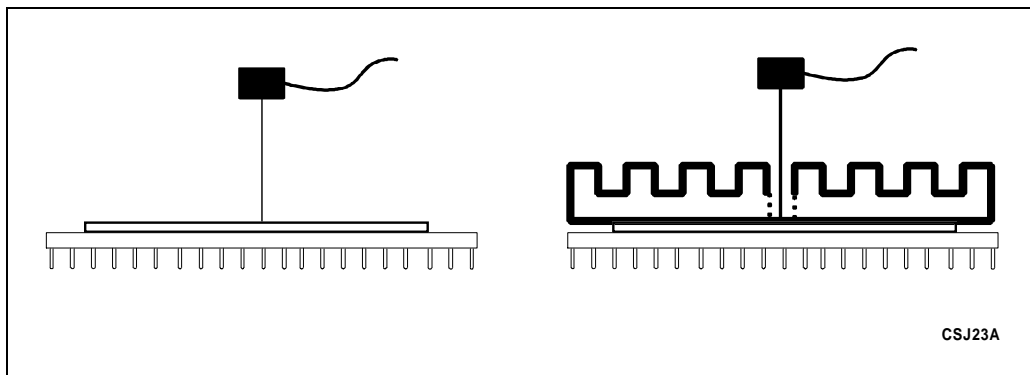

Figure 10-1. Technique for Measuring T_{case} *
- The thermocouple should be attached at a 90° angle as shown in Figure 10-1. When a heat sink is attached, a hole (no larger than 0.15×0.15) should be drilled through the heat sink to allow probing the center of the package as shown in Figure 10-1.